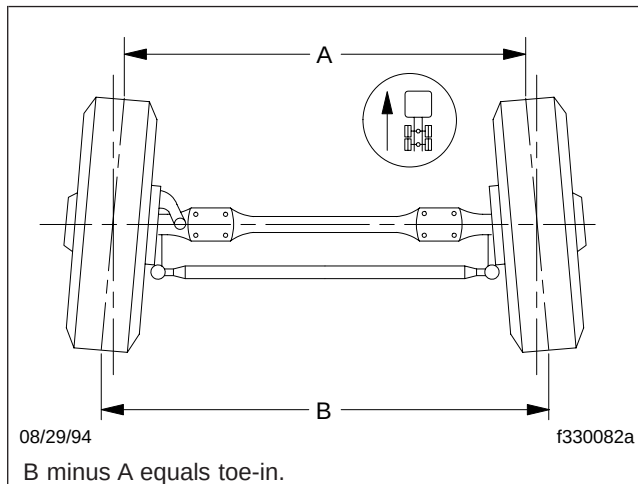

Fig. 5, Wheel Toe-In (Overhead View)
6. Place a trammel bar at the rear of the front tires; locate the trammel pointers at spindle height, and adjust the pointers to line up with the scribe lines on the center ribs of the front tires. See Fig. 5. Lock in place. Check that the scale is set on zero.